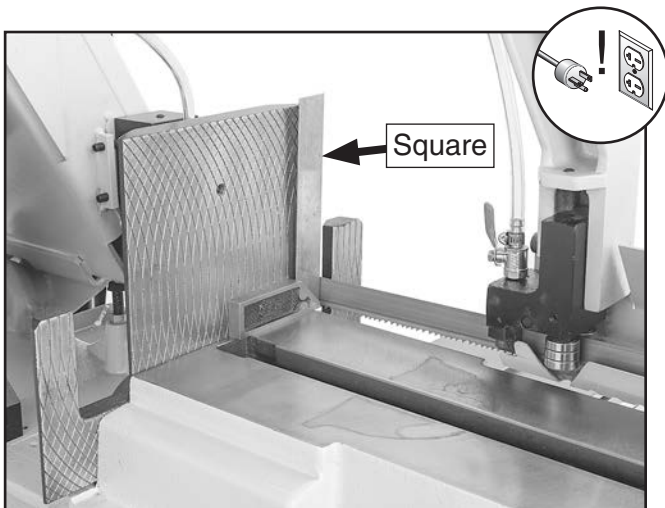

Figure 91. Checking blade squareness.
3. Place square on vise table and against edge of blade (see **Figure 91**), and check different points along length of vise table between blade guide assemblies.